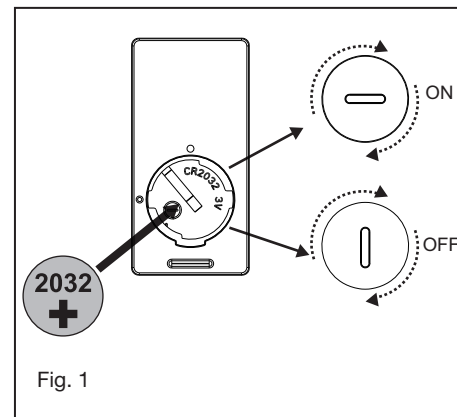

Fig. 1
1. Insert the receiver into the ceiling mounting bracket with the flat side of the receiver facing the ceiling. (Fig. 1) For best performance, make sure the Black Antenna and WIFI Antenna, on the end of the receiver, remains extended and not tangled with any of the electrical wires.
- 1 Remove one of the three screws on the mounting hub located on the fan motor. Loosen the other 2 screws. (Do not remove) (Fig. 1)
- 1 Select a desired location. Use the wall plate to mark the location of the mounting holes. Plastic wall anchors or mounting screws are needed for this application. (Fig. 1)
Remove the panel from the transmitter and then install one 2032 battery (included). You need to use a coin to open or close the battery cover. To prevent damage to transmitter, remove the battery if not use for long periods of time (Fig. 1)